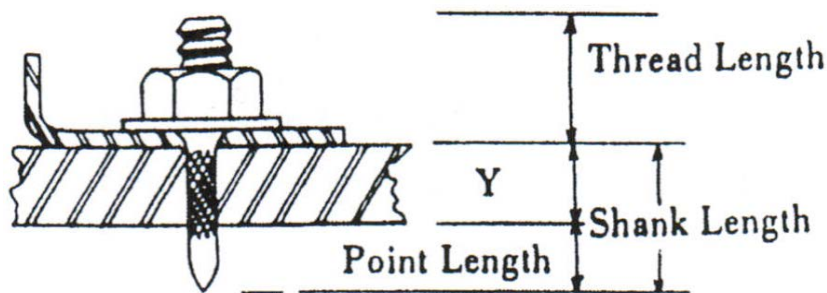

Fig. 26
Threaded Studs - The proper shank length for threaded studs depends on the thickness of the steel (Y) plus the point length on of the threaded stud. Depending upon the thickness of the material to be fastened, different thread lengths are available. Generally, if the item to be fastened is sheet metal, a short thread length would be selected. If the item to be fastened is thick, a correspondingly long thread length should be chosen so that a nut and washer can be applied. (Fig. 26).